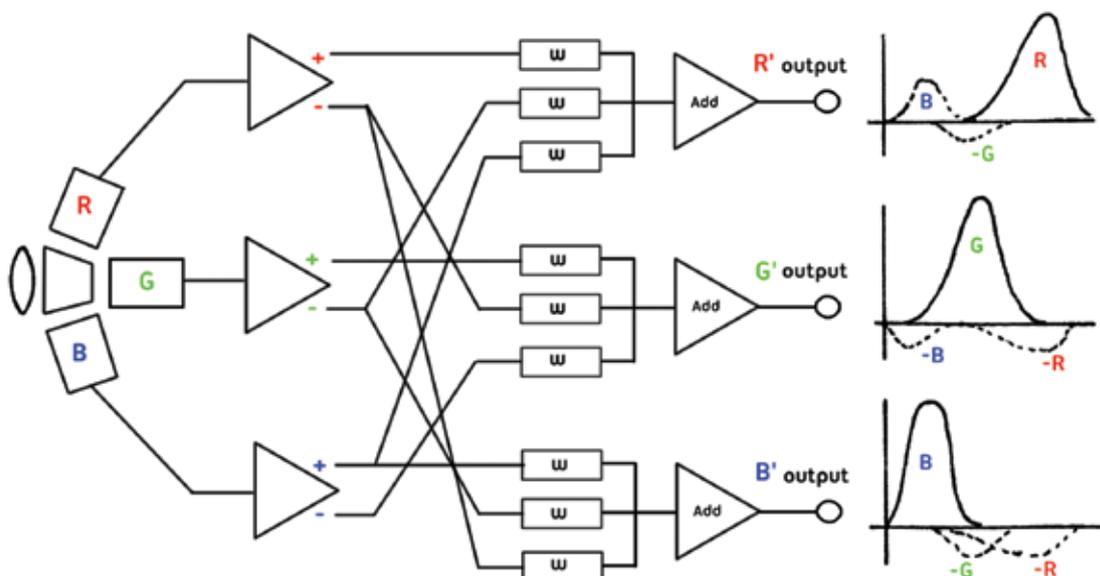

Fig. 2 Simplified Matrix diagram showing the creation of negative lobes and the weighting factor w
► Figure 2. DVB-S receiver overview
books have been written on just this. Considering fig. 1 you can see the red, green & blue responses. The tricky bit is that these response curves have negative lobes! It is also quite tricky to make CCD's or LCD's that have negative output! The way to do it is to have a Matrix where the RGB signals and their inverse signals are added together in a way that improves the colour fidelity. This attempts to take account of the characteristics of the optical system, light splitter, CCD response and so on. See fig. 2 for a block outline of a matrix.